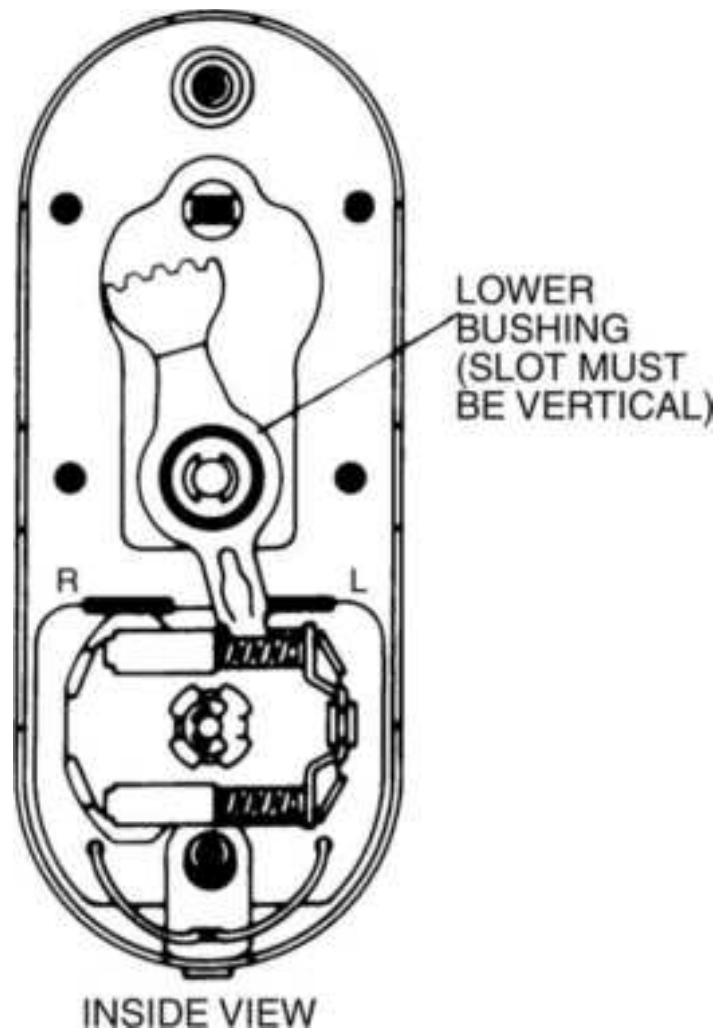

**Figure 13.79** Changing hand, Step 10.
10. Install the lower bushing—the slot is vertical (Fig. 13.79 ).